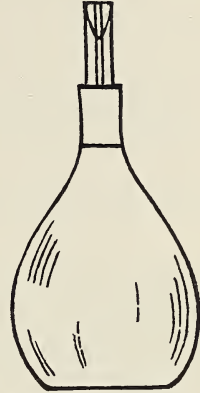

Fig. 24. A specific-gravity bottle.
a. The special-bottle method. In determining the specific gravity of liquids by this method, we use a specific-gravity bottle somewhat like that in Figure 24. First we weigh the empty bottle and then fill the bottle with the liquid under consideration, remove any liquid that overflows and runs down the outside, and weigh again. Subtracting the weight of the empty bottle from the combined weight of the bottle and liquid, we get the weight of the liquid. Next we fill the bottle with distilled water and weigh. (For extremely accurate work we should take into account the temperature of the liquid and water and make corrections for expansion because of changes in temperature.) Subtracting the weight of the empty bottle from the combined weight of the bottle and distilled water, we get the weight of a volume of water equal to the volume of the liquid.